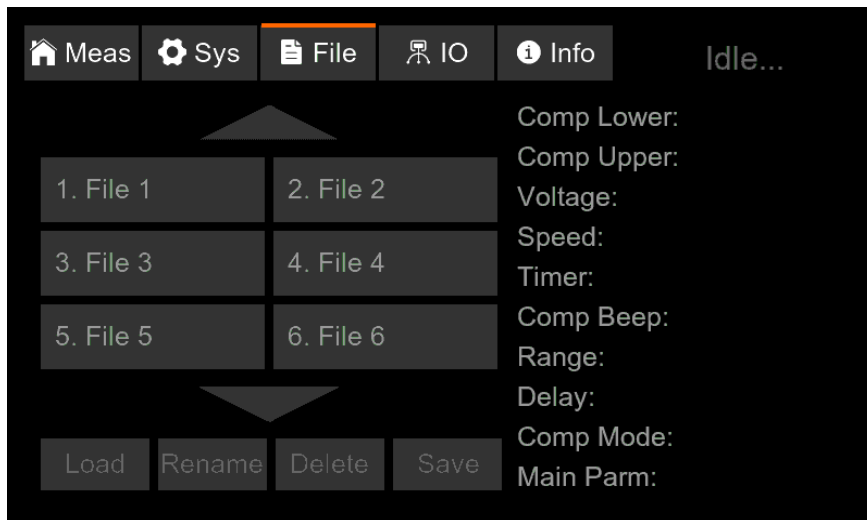

Figure 3-3 File Page
At this point, the main parameter area of the instrument displays Short and ends the test. If the short-circuit check passes, the instrument starts to apply the set voltage for the test, and the information bar at the bottom of the display prompts: "Short-circuit check time X ms, short-circuit check passes! (The test timing sequence is shown in Figure 3-3). (The test sequence is shown in Figure 3-2-4.1.)
- 1) **Save Settings:** Select the file to be deposited, touch screen and click Figure 3-3 **Save**, an inquiry window will pop up, make sure to save the file. After the saving is completed, select the file, the right side of the file interface will display the setting conditions deposited in the file.
- 2) **Delete Settings:** Select the file to be deleted, touch the screen and click Figure 3-3 **Delete**, an inquiry window will pop up to determine the deletion of the file.
- 3) **Rename Settings:** Select the file that needs to be renamed, touch the screen and click Figure 3-3 **Rename**, enter the new file name in the pop-up keyboard window and confirm.
- 4) **Load Settings:** Select the file you need to load, touch screen to click Figure 3-3 **Load**, a pop-up window will ask you to determine the loading of the file. After loading is complete, the message bar prompts: "File loading is complete!"